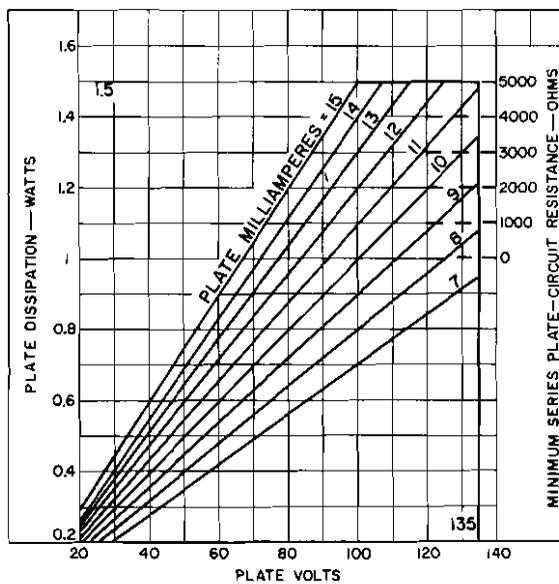

Fig.1 - Plate-Dissipation Rating Chart for Types 2CW4, 6CW4, and 13CW4.
For lower values of series plate-circuit resistance	See Fig.1 and Operating Considerations
The *Plate-Dissipation Rating Chart* shown in Fig.1 presents graphically the maximum rated plate dissipation of the 2CW4, 6CW4, and 13CW4 for various minimum
2. From Fig.1 determine the corresponding maximum plate dissipation and required minimum value of series plate-circuit resistance.
(b) From Fig.1 — the plate dissipation for a plate voltage of 130 volts and a plate current of 10.5 milliamperes is approximately 1.37 watts. The required minimum series plate-circuit resistance for this plate dissipation is 3700 ohms.